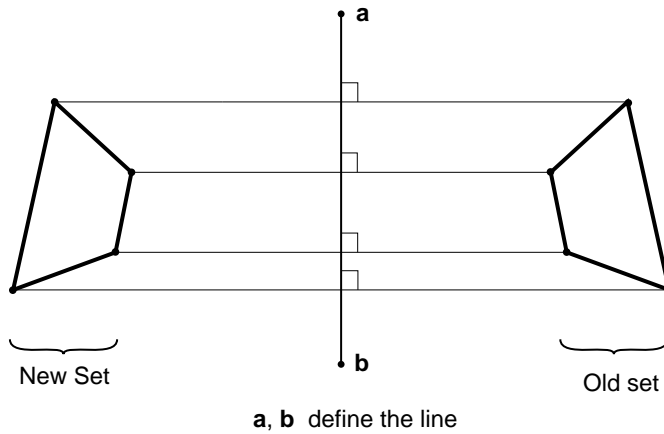

Figure 14.1-2 *NCOPY, REFLECT=LINE option.
1. *X*-coordinate of the first point defining the reflection line (point *a* in Figure 14.1-2).
4. *X*-coordinate of the second point defining the reflection line (point *b* in Figure 14.1-2).